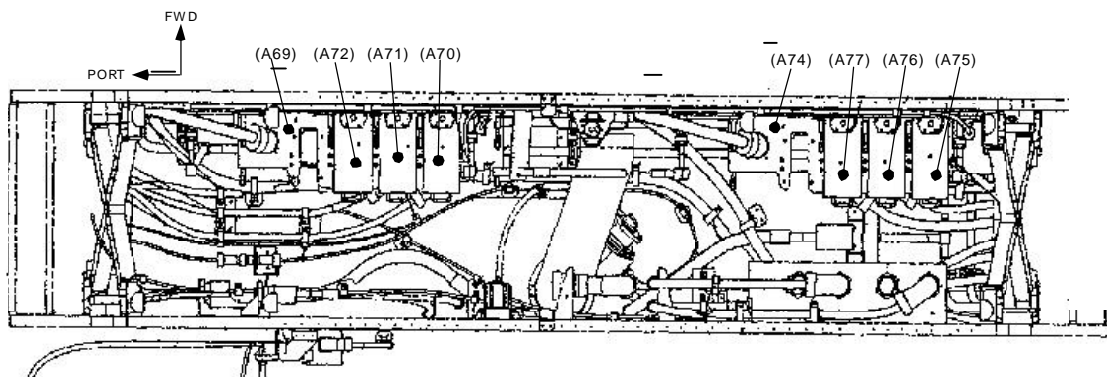

Figure. 1. Nadir View of Node 1 Alcove Deck (with Closeout and Shear Panel Removed).
5. Locate failed RPCM. See Table 1. And Figure. 1.